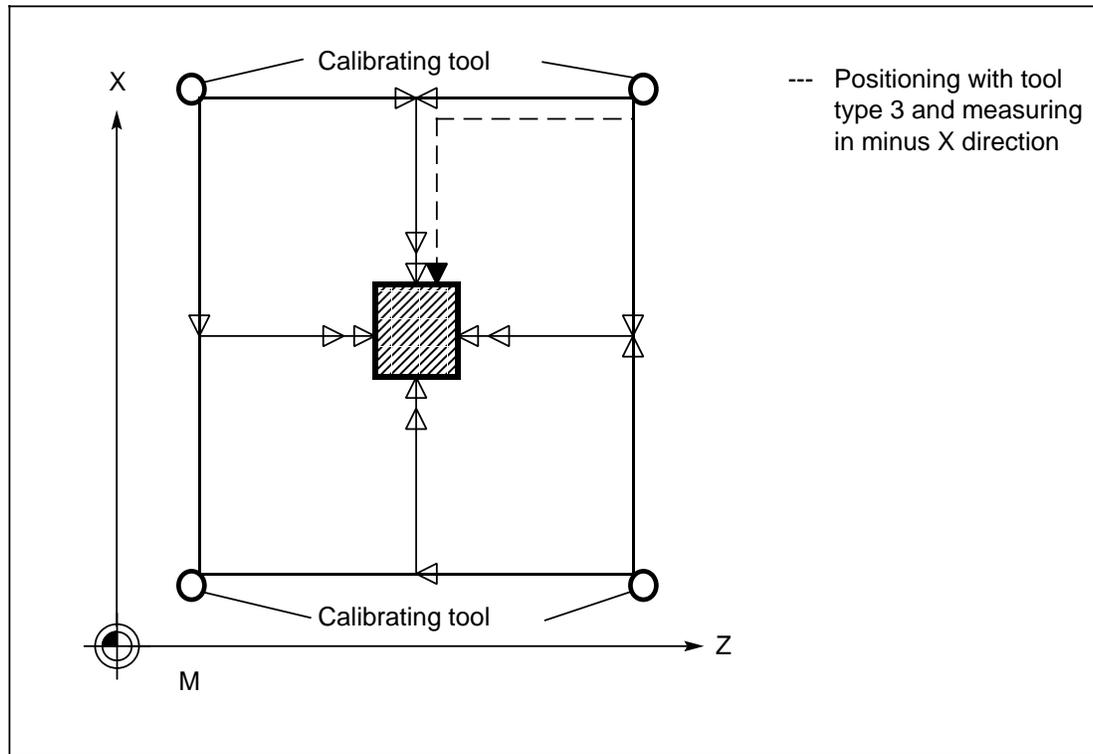

Fig. 4.1 Start position when calibrating the tool probe
- Start position as shown in Fig. 4.1. The measuring cycle calculates the start position automatically.